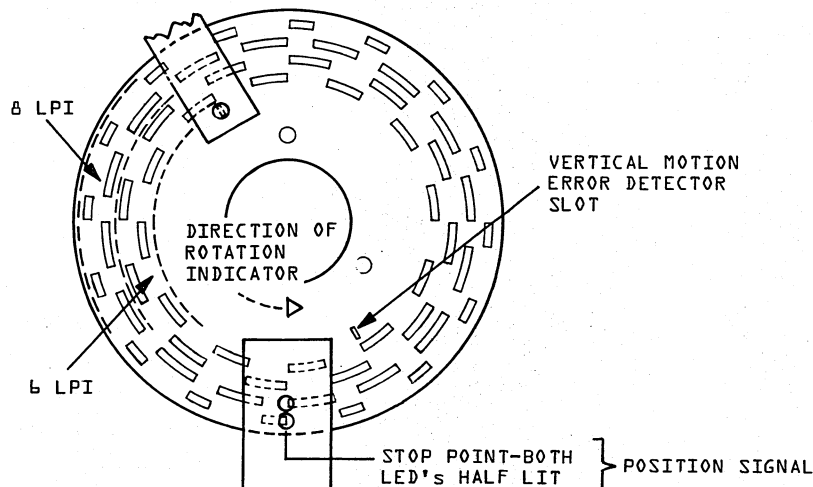

FIGURE 5-32. TYPICAL VERTICAL WAVEFORMS
18. Sync + and monitor Ref. P (see Table 5-4) Refer to Figure 5-32.